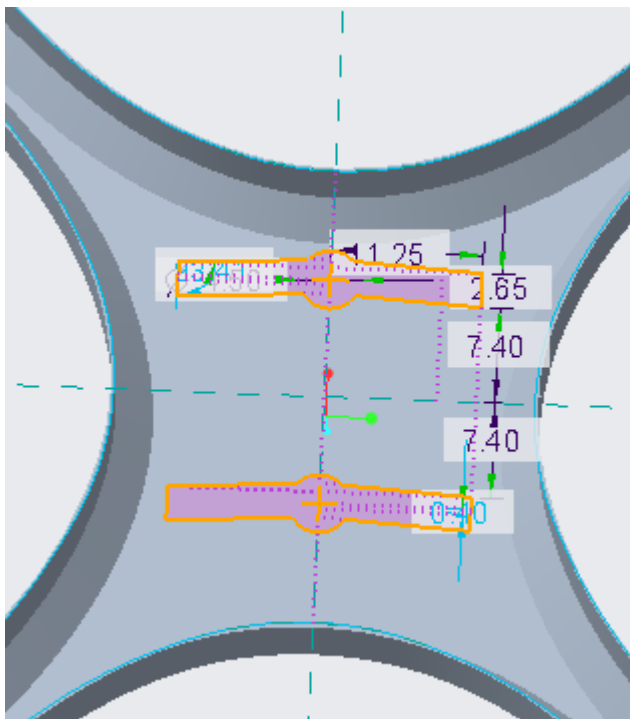

fig7.2
- Extrude the pattern in top plane as in fig 7.2